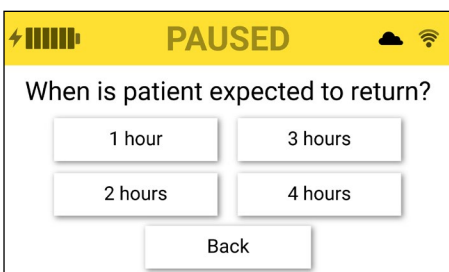

Figure 7. Off unit paused time selection screen
4. Select the desired time frame based on when the patient is anticipated to return. (Fig. 7)